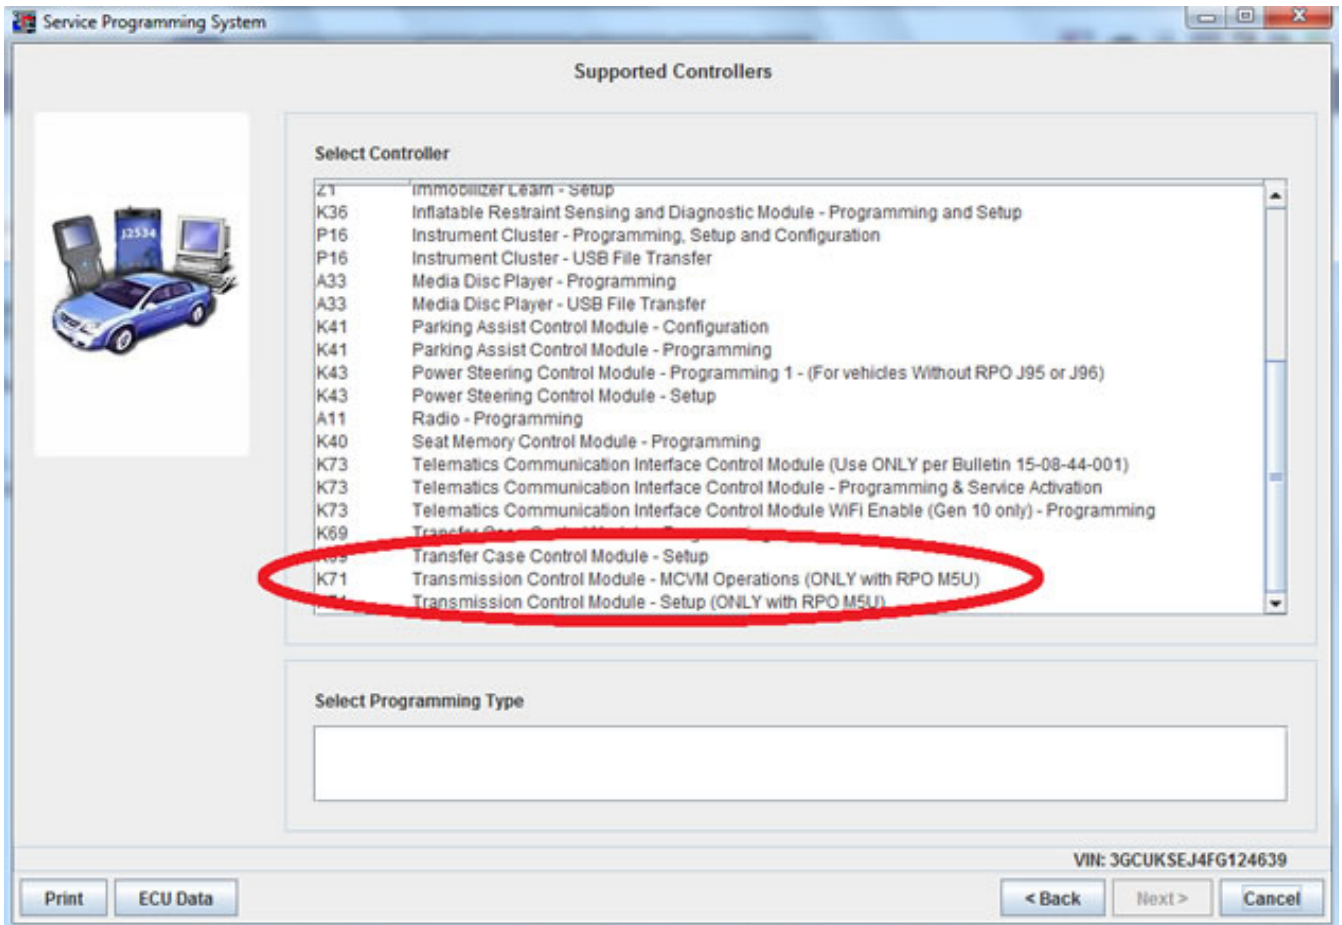

Fig 5
4. Select Transmission Control Module – MCVM Operations. (Fig. 5)